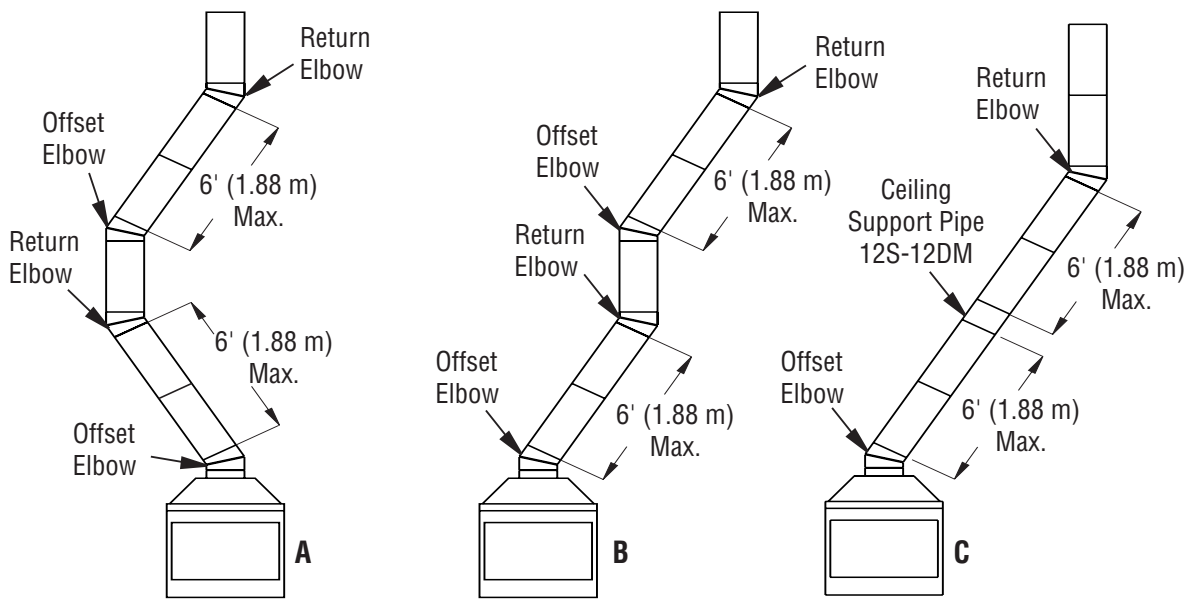

**Figure 13 - Ceiling Support Pipe 12S-12DM**
2. Chimney weight above offset rests on return elbow. Straps must be securely nailed to rafters or joists (see Figure 13, details A and B).